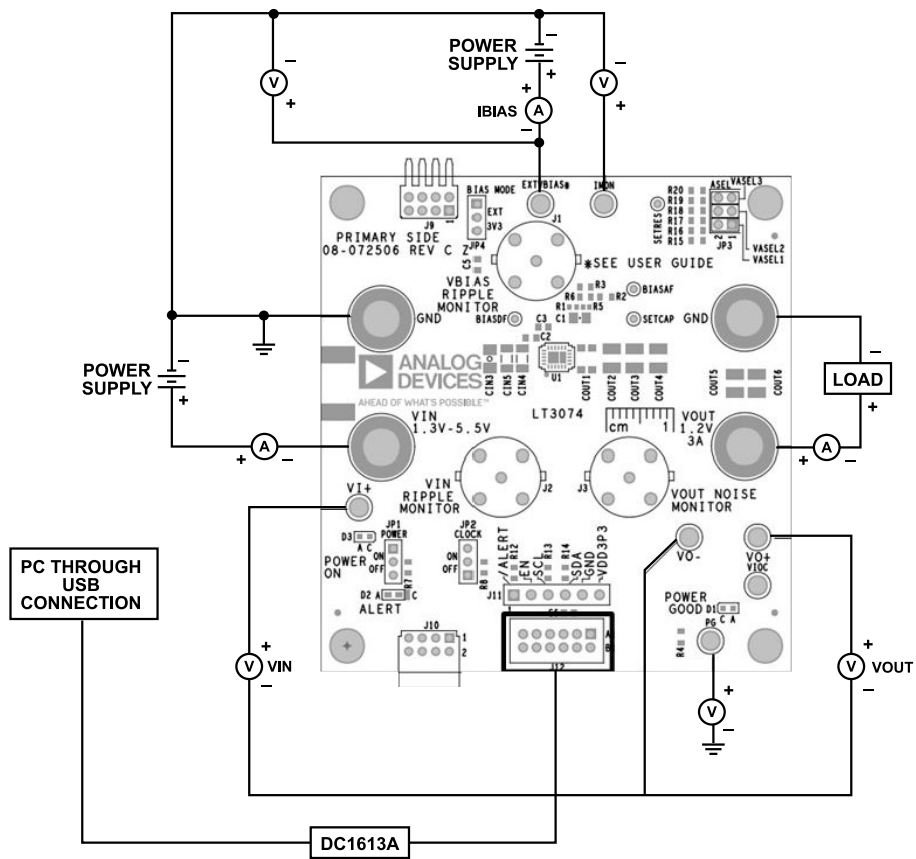

Figure 2. Proper Measurement Equipment Setup for the EVAL-LT3074-AZ
To use the EVAL-LT3074-AZ to evaluate the performance of the LT3074, see Figure 2 for the proper measurement equipment setup and follow these steps:
1. With the input supplies off and turned down, and the load turned down, make all the connections shown in Figure 2. The EVAL-LT3074-AZ can operate without PMBus programming. So, standalone operation is discussed first in steps 1 to 10, and operation with PMBus communications is discussed after that. For now, just ensure that the POWER jumper (JP1) is in the ON position, the CLOCK jumper (JP2) is in the ON position, the ASEL jumper (JP3) is in the VASEL1 position, and the BIAS MODE jumper (JP4) is in the EXT position.